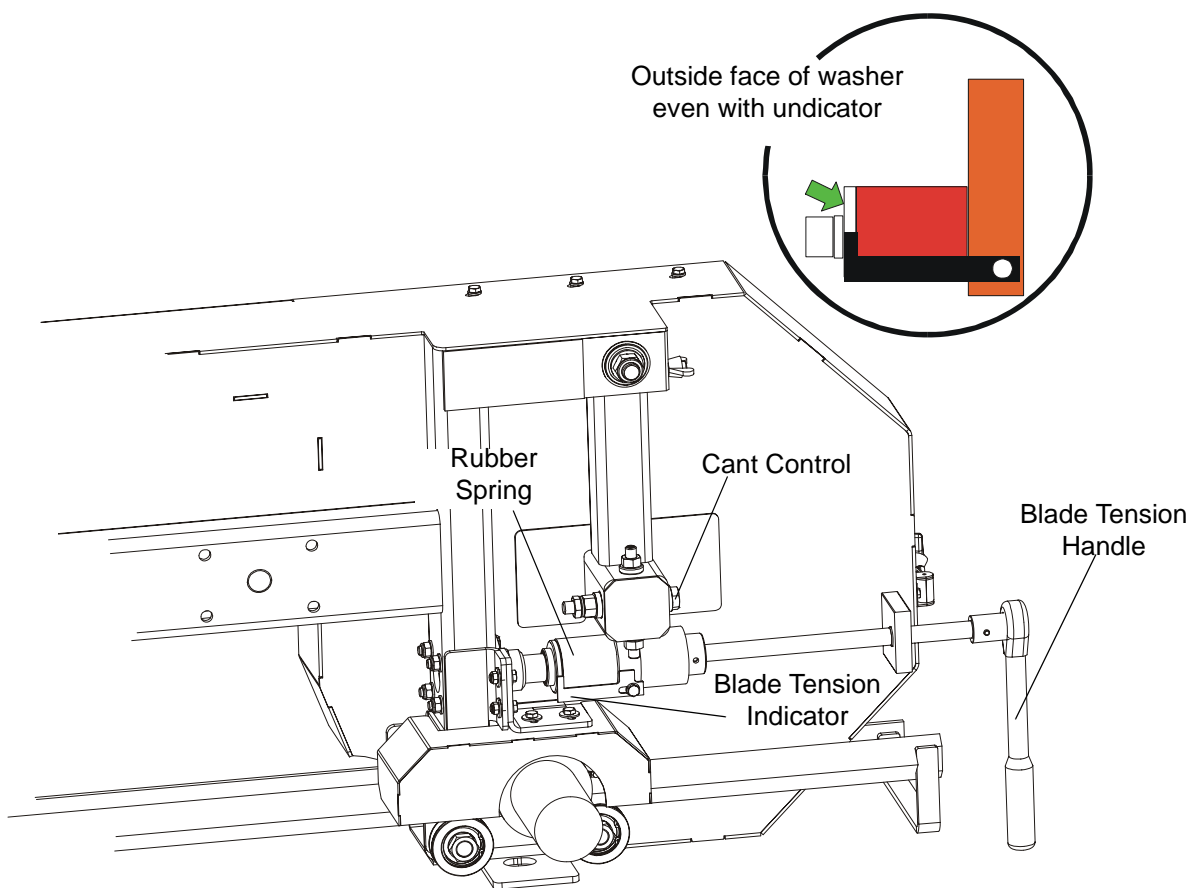

FIG. 2-9
See Figure 2-9. Turn the blade tension handle clockwise to compress the rubber spring and tension the blade. Check the blade tension occasionally when adjusting the cant control or while cutting. As the blade and belts heat up and stretch, the blade tension will change. Also, ambient temperature changes can cause tension to change. Adjust the tension handle as necessary so that the indicator is parallel to the blade guide arm.
5. Use the cant adjustment bolt, shown in **Figure 2-9** to adjust where the blade travels on the blade wheels.